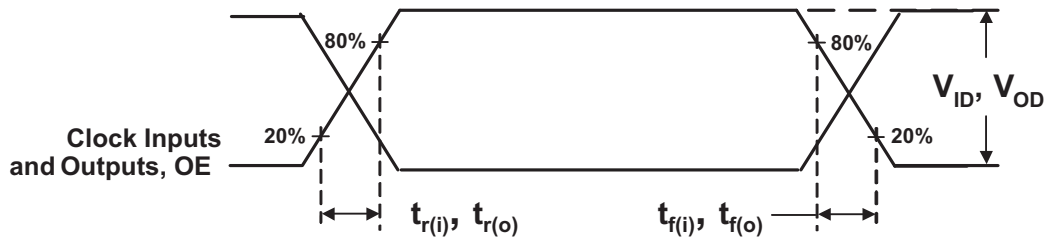

Figure 9. Input and Output Slew Rates
- (1) The PLL is turned off and bypassed for test purposes when AVDD is grounded. During this test mode, VDDQ remains within the recommended operating conditions and no timing parameters are specified.
- (2) VID is the magnitude of the difference between the input level on CK and the input level on  $\overline{CK}$ , see Figure 9 for definition. The CK and  $\overline{CK}$ , VIH and VIL limits define the dc low and high levels for the logic detect state.
(1) VOD is the magnitude of the difference between the true and complimentary outputs. See Figure 9 for a definition.
(2) Total IDD = IDDQ + IADD = fCK × CPD × VDDQ, solving for CPD = (IDDQ + IADD)/(fCK × VDDQ) where fCK is the input frequency, VDDQ is the power supply, and CPD is the power dissipation capacitance.